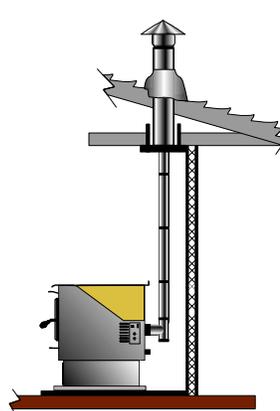

Figure 18
-  **VERTICAL, UP TO AN EXISTING CLASS A CHIMNEY OR MASONRY CHIMNEY**. An appropriately sized adapter will be needed when connecting onto either a Class A chimney or into a masonry chimney. NOTE: The connection into a masonry chimney must be airtight. Figures 18,19 and 21.